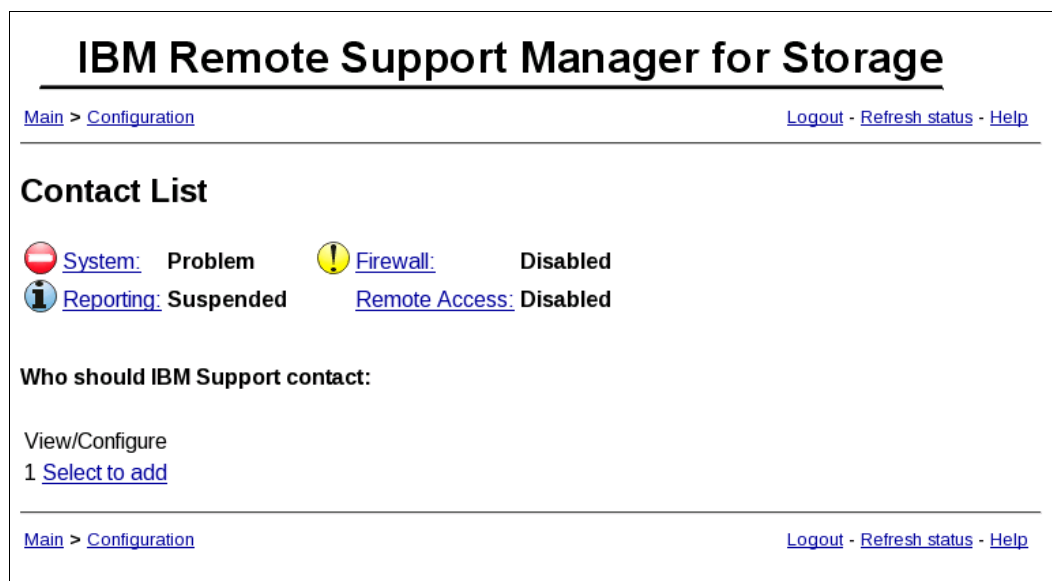

Figure 16-11 RSM contact list
If there are email addresses already configured to receive emails from Storage Manager but are not listed in the RSM Contact List (see Figure 16-11 on page 492 for the Contact List), it is not necessary to delete them in Storage Manager.
- Click **Contact Information** to access the contact list to add a new contact (Figure 16-11).